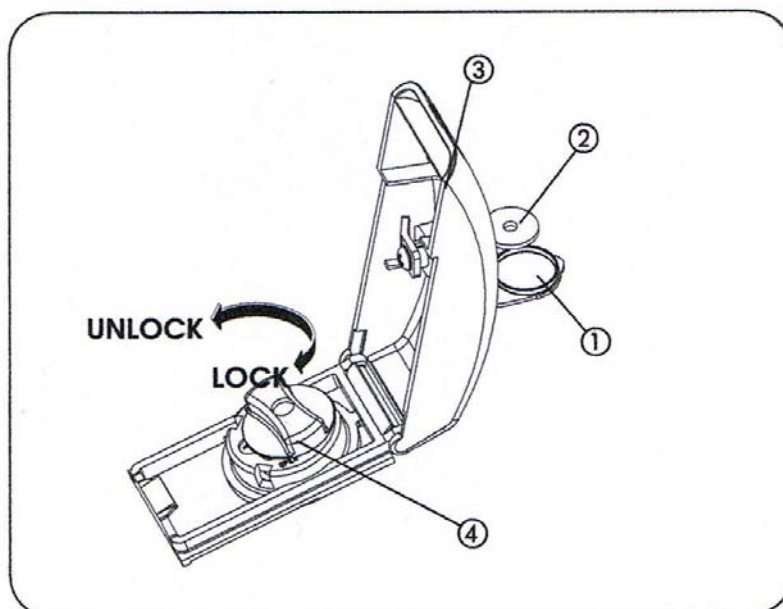
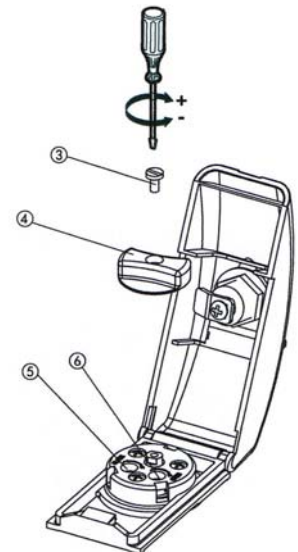

Figure 3. Manual Release
Figure 6. Locking Cap Assembly
Release the operator as shown in Fig. 3. Put the operator into position and attach the rear fork to the rear mounting bracket using the short brass pin, washer, and nut.
Re-engage the operator by inserting the key in the locking cap (see Figure 3) and turning it clockwise until snug. Remove the key.
- Lift the key lock cover (figure 3) and insert the manual release key.
- Turn the key 90° clockwise to open the locking cap cover.
- Refer to figure 6 for the following procedures)
- Remove the screw (3) which secures the knob (4) and then remove the knob.